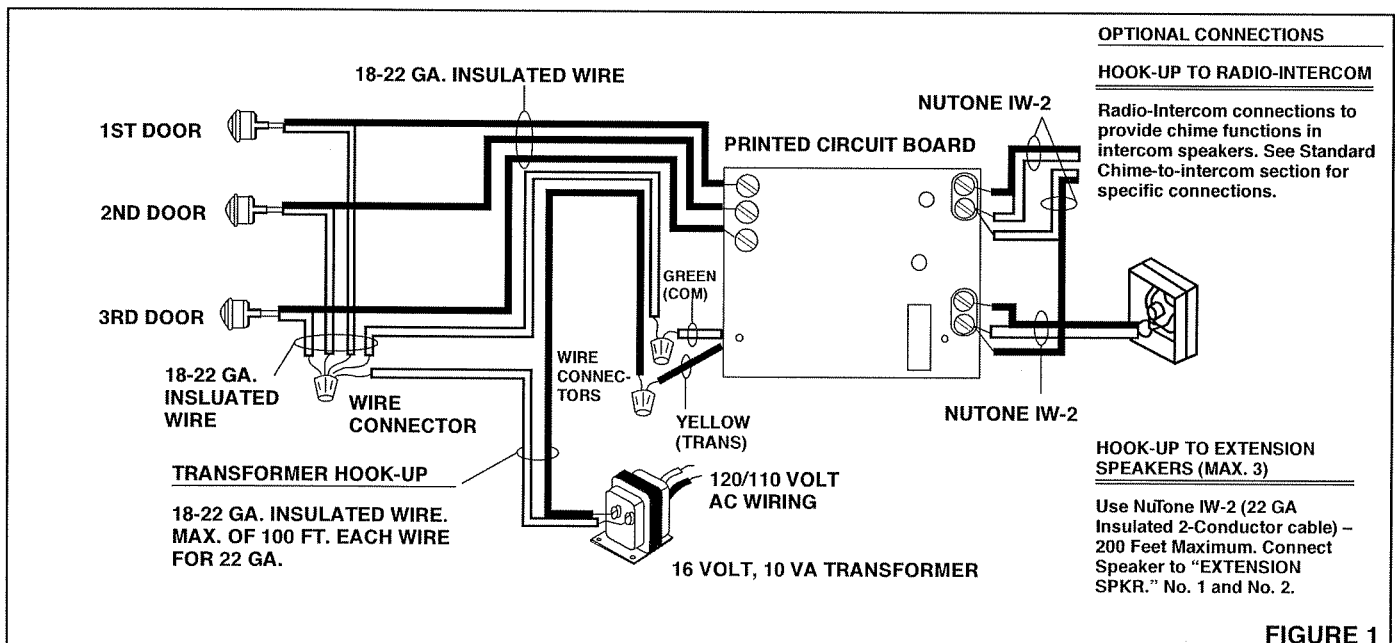

FIGURE 1
2. **Refer to Figure 1.** Run 18-2 gage wire from the transformer and pushbutton(s) to the chime location.
1. **Refer to Figure 1.** Make wire connections to terminals shown as applicable.
Refer to Figure 1.